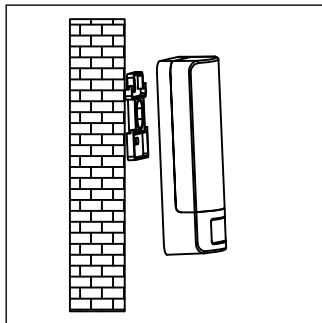

Fig.5
**Step 5:** After wiring place the bulkhead onto the installed mounting kit to complete the installation (Fig 5).